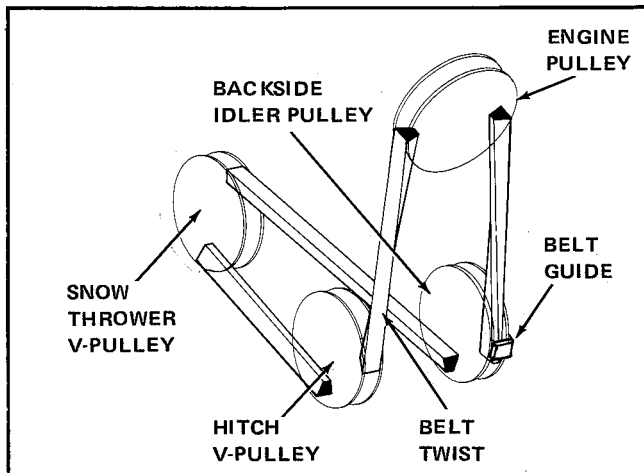

Figure 4. Install V-Belt
- Continue to hold idler pulley up while threading snow thrower V-belt over engine pulley. Be sure that V-belt is twisted as shown in figure 4. If belt seems short, idler pulley is not completely raised. In this case, release idler pulley lever and step on it again while pushing pulleys inward to clear frame. When V-belt is installed, release pulley lever.